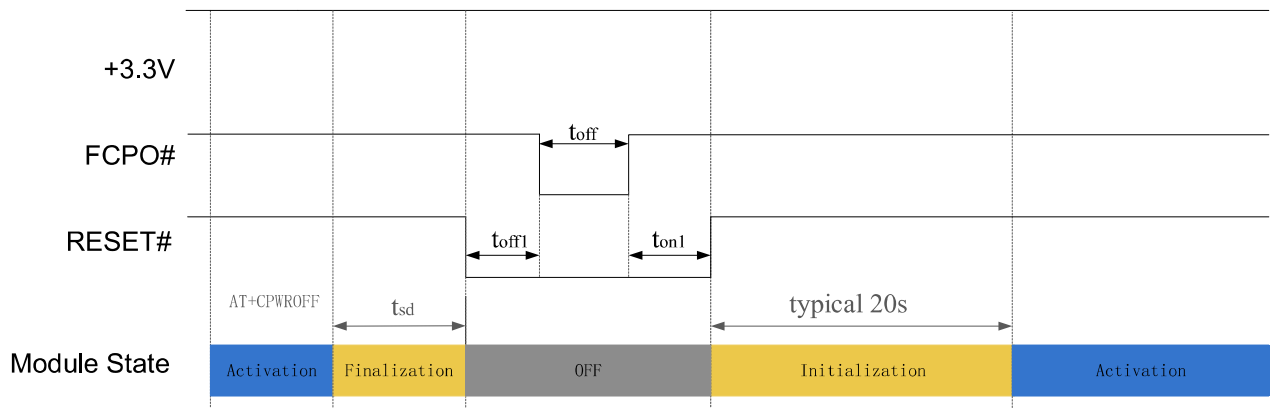

Figure 11. Reset timing 2nd
- Reset timing 2nd in Figure 11, PMU of module internal will be off in reset sequence (including whole power off and power on sequence,  $t_{sd}$  can refer section 3.3.2), recommend using in system warm boot.